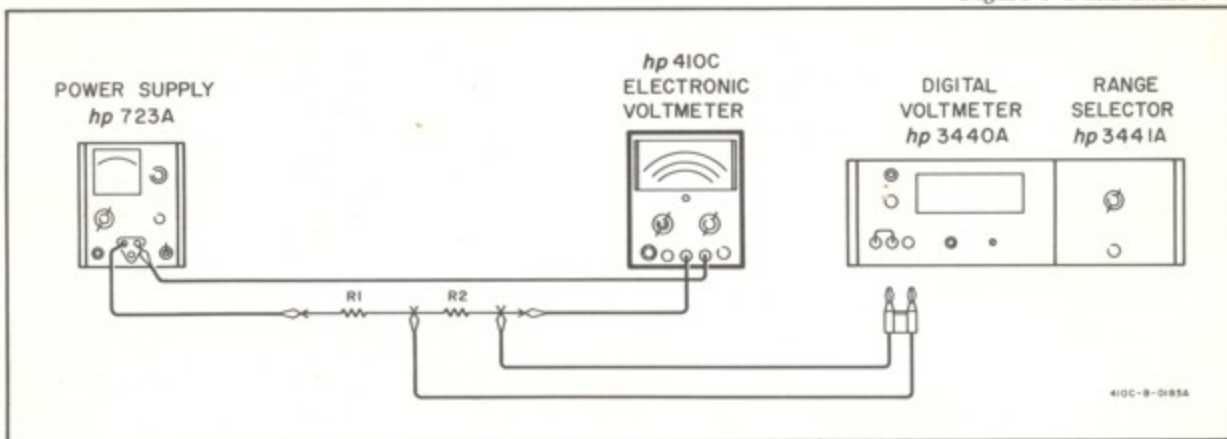

Figure 5-2. DC Ammeter Operation
a. Figure 5-2 describes the test arrangement required for this operation. The following additional equipment will also be required:
b. Connect the Model 410C as shown in Figure 5-2; FUNCTION SELECTOR to +DCA; RANGE to 150 MA.